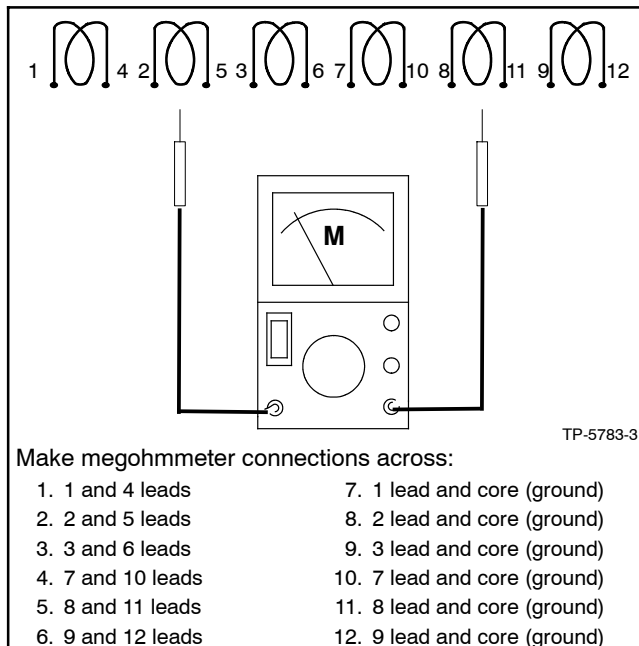

Figure 11-16 Stator Winding High Voltage Test
7. Using a megohmmeter, apply 500 volts DC to each set of windings and then to each winding and the stator core (ground). See Figure 11-16. Place the stator assembly on a non-conductive surface when performing the test. Follow the instructions of the megohmmeter manufacturer when performing this test.